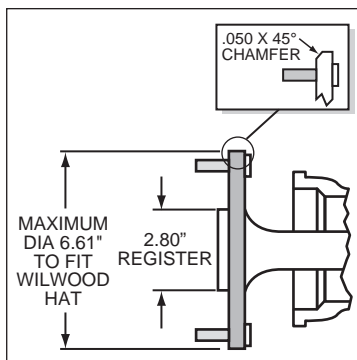

Figure 5. Axle Flange Maximum Dimension
- Axle center register diameter is 2.80", Figure 5. This kit uses Wilwood's removable center register adapters. Rotors can either be centered on the axle register, i.e. *register-centric* or centered on the wheel studs, i.e. *stud-centric*. Due to variations in wheel stud final diameters, *register-centric* centering can be a more accurate method of centering the rotor to the caliper. Wilwood offers various diameter adapters for purchase in addition to the ones supplied in this kit, see Table 1.
- Maximum axle flange diameter must be no larger than 6.61" w/.050" x 45° chamfer, Figure 5.